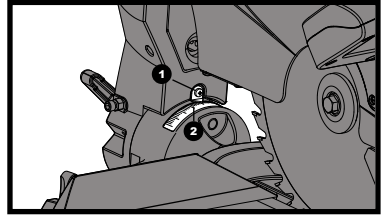

Fig 18
- 1) When the blade is exactly 90° (0°) to the table, loosen the bevel indicator screw (1) using a # 2 Phillips screwdriver.
- 2) Adjust bevel indicator (2) to the "0" mark on the bevel scale and retighten the screw. (See fig. 18)